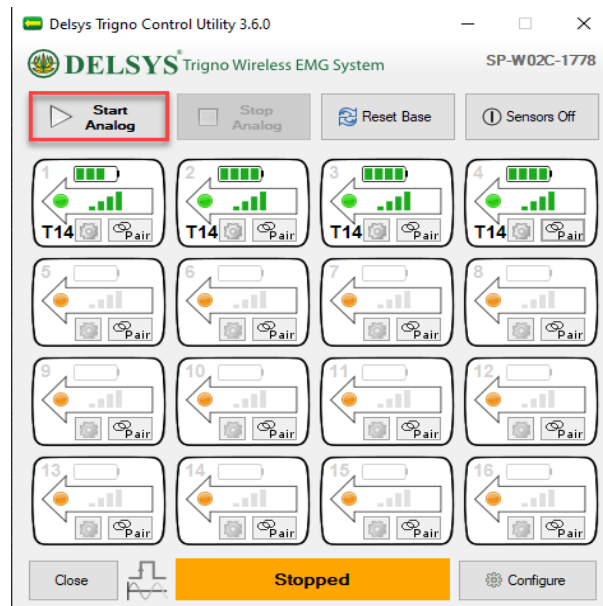

Figure 15: Initiating analog signal from the Trigno Control Utility.
3. Press the *Start Analog* button located in the top left corner of the control panel to initiate signal outputs (Figure 15). Minimize the window.